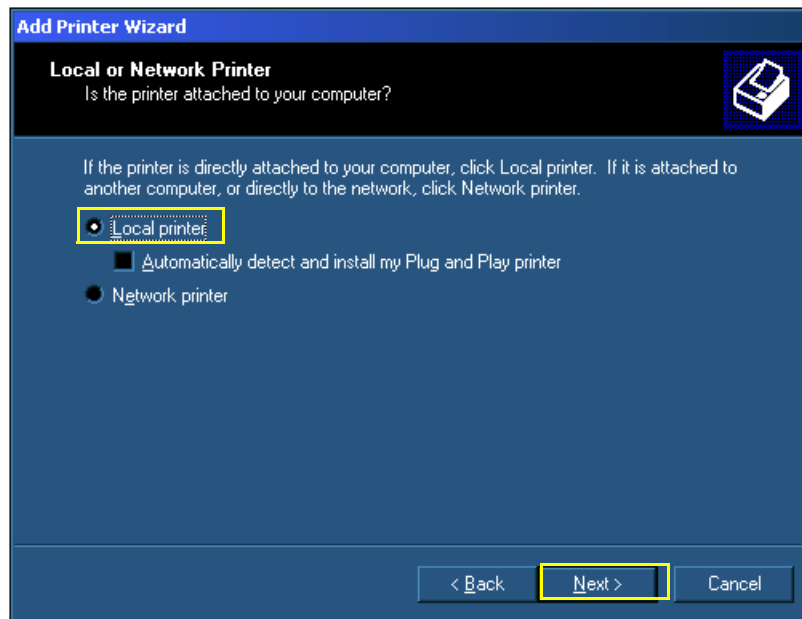

Figure 8-183 Verify Local Printer
10.) When prompted, verify that *Local Printer* is selected. If not, activate the **Local printer** radio button as shown in Figure 8-183.